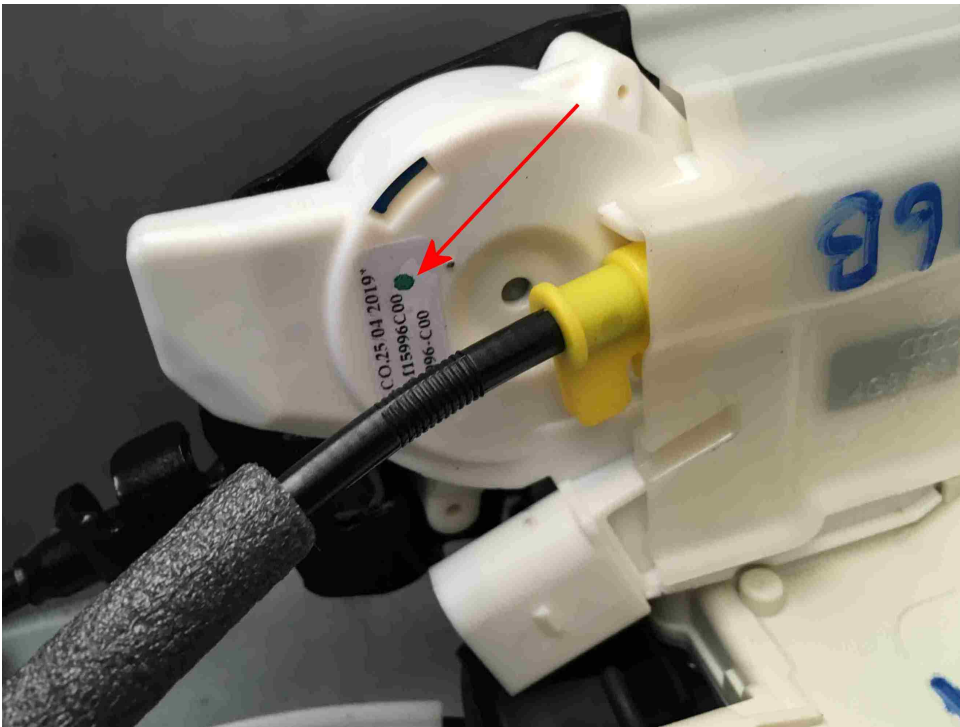

Figure 2
4) Open a Non technical/For information only DISS query - Attach a photo of the door latch label as shown in Figure 2